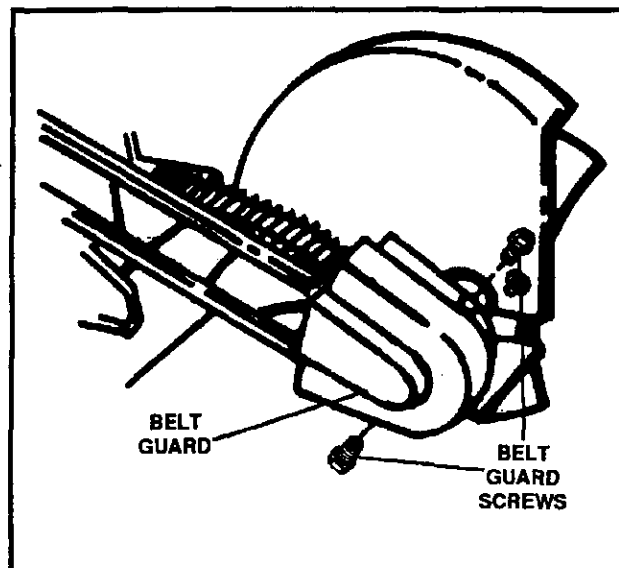

FIG. 13
- Remove the two (2) screws from the belt guard (See Fig. 13). Remove the belt guard.